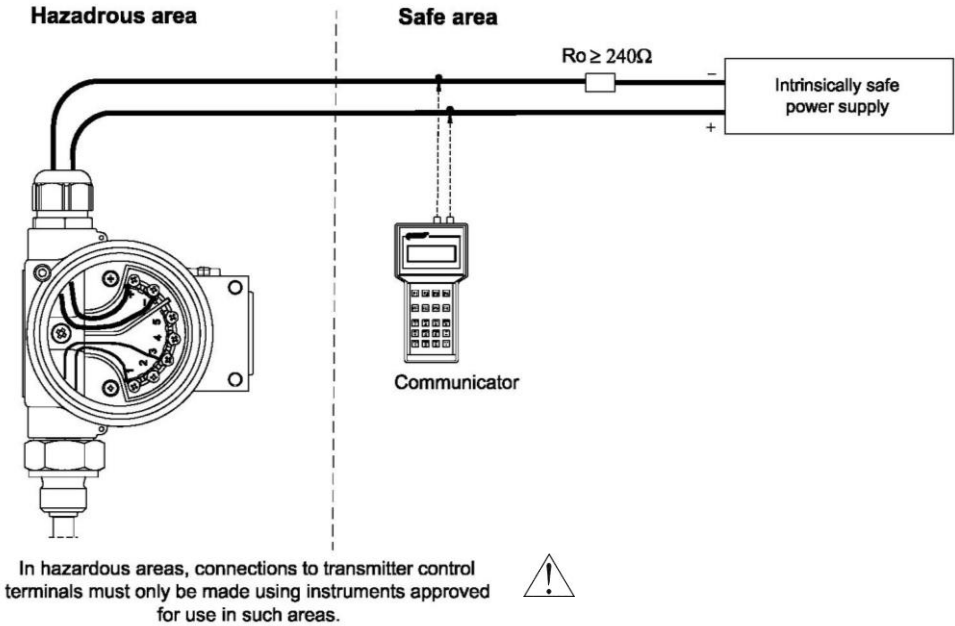

Fig. 4. Connection of the transmitter LI-24ALW in Exd version.
6.5. For sensors WRGB and WOGB (fig.4 in the IO.LI24.ALW.01 (ENG)) from Aplisens, provided only with a measuring insert protection with walls >0.5 mm thick, additional process shields (Fig. 8 in the IO.LI24.ALW.01 (ENG)) or an additional user shield with walls ≥ 1 mm thick should be installed.
6.5. For sensors WRGB and WOGB (fig.4 in the IO.LI24.ALW(ENG)) from Aplisens, provided only with a measuring insert protection with walls >0.5 mm thick, additional process shields (Fig. 8 in the IO.LI24.ALW.01(ENG)) or an additional user shield with walls ≥ 1 mm thick should be installed.